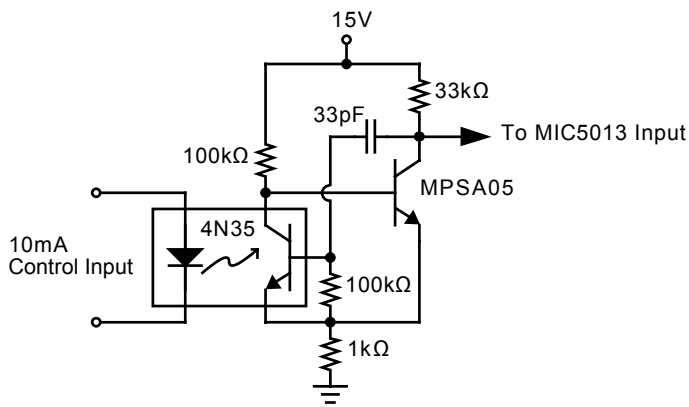

Figure 8. Improved Opto-Isolator Performance
**Opto-Isolated Interface** (Figure 8). Although the MIC5013 has no special input slew rate requirement, the lethargic transitions provided by an opto-isolator may cause oscillations on the rise and fall of the output. The circuit shown accelerates the input transitions from a 4N35 opto-isolator by adding hysteresis. Opto-isolators are used where the control circuitry cannot share a common ground with the MIC5013 and high-current power supply, or where the control circuitry is located remotely. This implementation is intrinsically safe; if the control line is severed the MIC5013 will turn OFF.
Power for the MIC5013 is supplied by a charge pump. A 20kHz square wave (15Vp-p) drives the pump capacitor and delivers current to a 100μF storage capacitor. A zener diode limits the supply to 18V. When the MIC5013 is off, power is supplied by a diode connected to a 15V supply. The circuit of Figure 8 is put to good use as a barrier between low voltage control circuitry and the 90V motor supply.